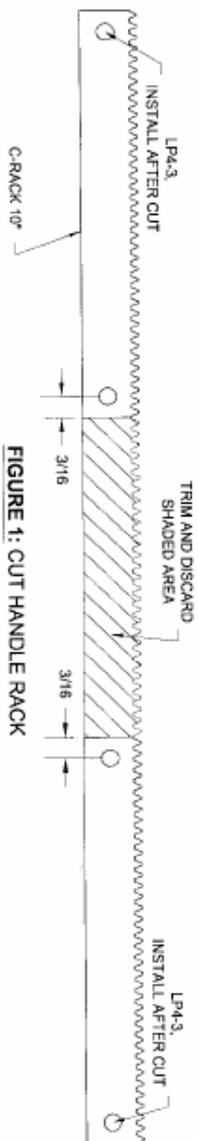

FIGURE 1: CUT HANDLE RACK
Step 1: Cut each C-RACK 10" Handle Rack into two pieces as shown in Figure 1.